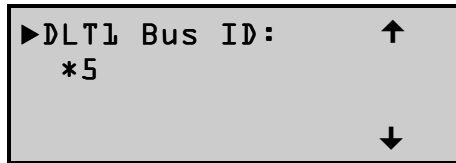

Figure 2-8 Set SCSI Submenu Scrolled
5. Note that the Library SCSI ID is set to 6. Suppose you want to set the DLT1 bus ID to 4. With the ► next to line 1, press the ▼ button repeatedly until the display scrolls as shown in Figure 2-8: